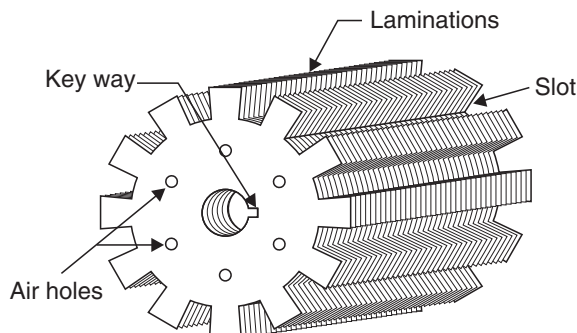

Fig. 6. Armature of a D.C. machine.
- The armature of D.C. machines (see Fig. 6) is built up of thin laminations of low loss silicon steel. The laminations are usually 0.4 to 0.5 mm thick and are insulated with varnish.